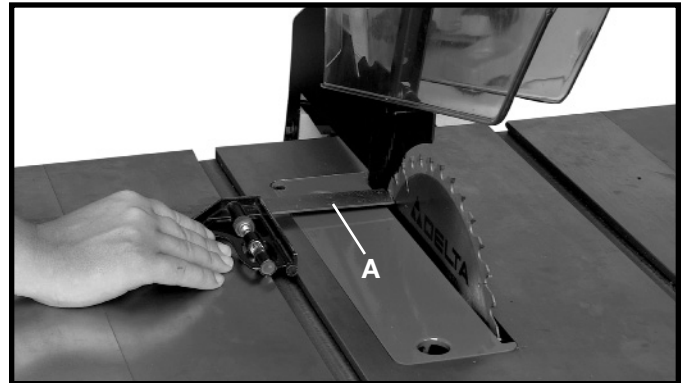

Fig. 37
2. Rotate the saw blade so that the same tooth you used in **STEP 1** is in the rear position, as shown in Fig. 37, and check this distance. Both the front and rear measurements should be identical.